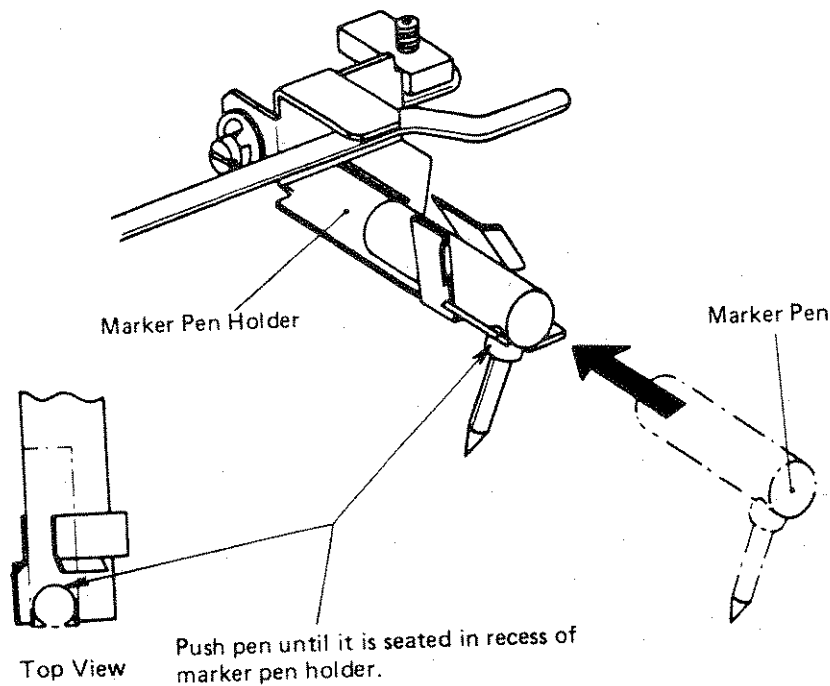

Fig. 5.7 Installing Event Marker Pen, 1241-2
A. Install Event Marker Pen referring to Fig. 5.7.